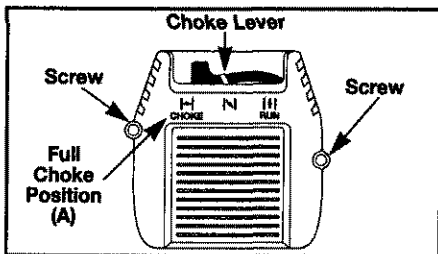
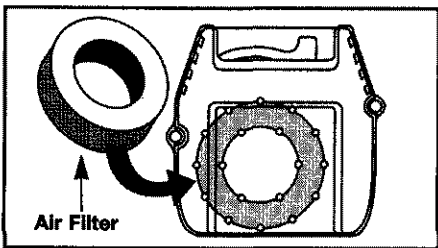

Fig. 20
Fig. 21
NOTE: The choke lever must be in the full "CHOKE" position (A) (Fig. 20) to remove and install the air filter cover.
1. Remove the screws on each side of the carburetor/air filter cover assembly (Fig. 20). Remove the air filter cover.
2. Remove the air filter (Fig. 21).
6. Reinstall the filter (Fig. 21), air filter cover, and screws (Fig. 20).